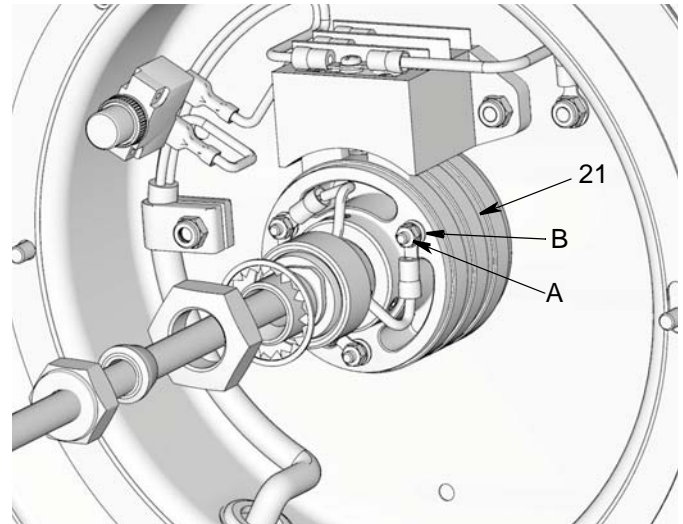

FIG. 14
3. Loosen and remove three 7 mm hex nuts (A) and lockwashers (B) from slip ring (21) (FIG. 14).